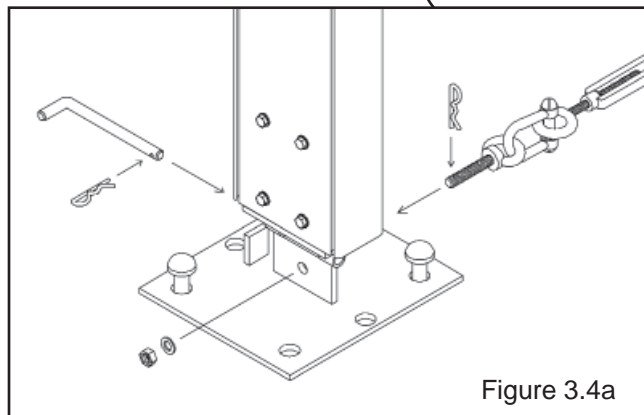

Figure 3.4a
- 3.4.1 The Upright Cables connect to the base plates by inserting an Eyebolt attached to the loose end of the cable assembly thru the hole in the base plate vertical tab as shown in Figure 3.4a. Secure the Eyebolt with the washer and nut provided. NOTE: The R-Clip provided will be used later to secure the wall ground rails at the End Arches if the gable end walls are installed. Adjust the tension of the cables using the turnbuckles, tension only enough to make frame stable. After the Upright Cables have been installed and tensioned, remove the Diagonal Beam Braces.